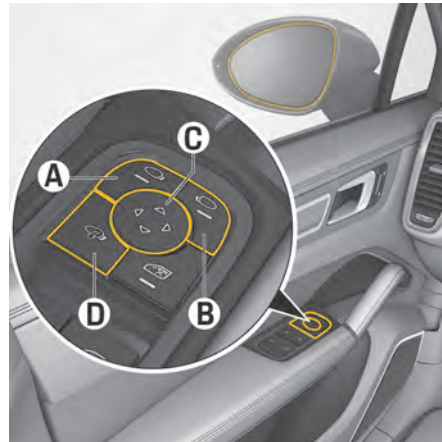

Fig. 119: Door mirror control panel
- ▶ Press button **D** (Fig. 119).